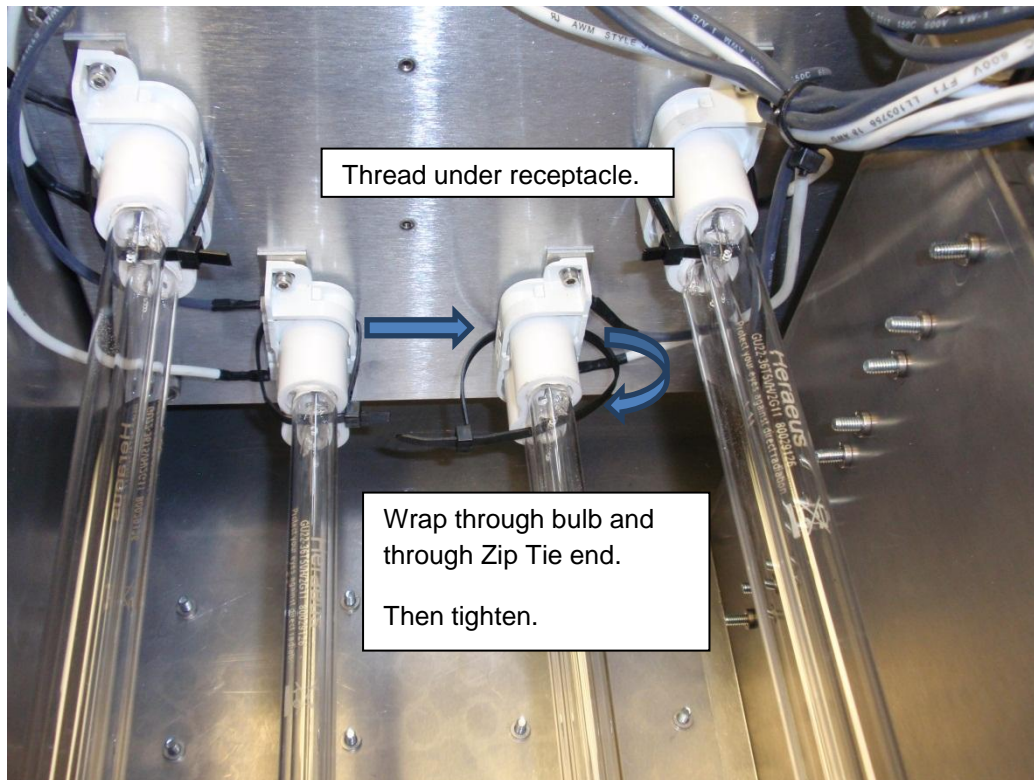

Figure 9: Illustration of Zip Tie Replacement
- 15) Thread the new zip ties provided around under the receptacle and around the ceramic end of the bulb, as shown in Figure 9. Insert the ziptie from the inside of the unit to the outside, threading it under the receptacle and back through the inside of the bulb. Pull tight.